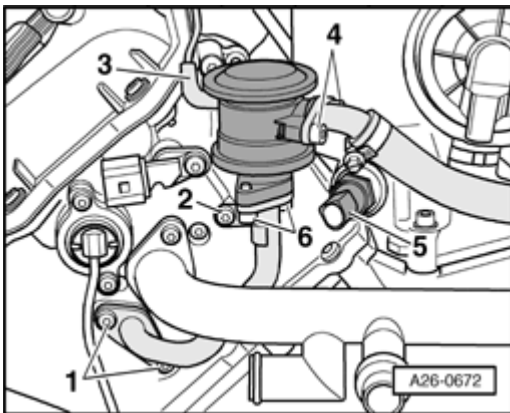

Fig. 645: Disconnect Vacuum Hose, Electrical Harness Connector From Oil Pressure Switch F1, Removing Bolts & Oil Pressure Switch
- **Fig. 645 depicts engine from rear.**